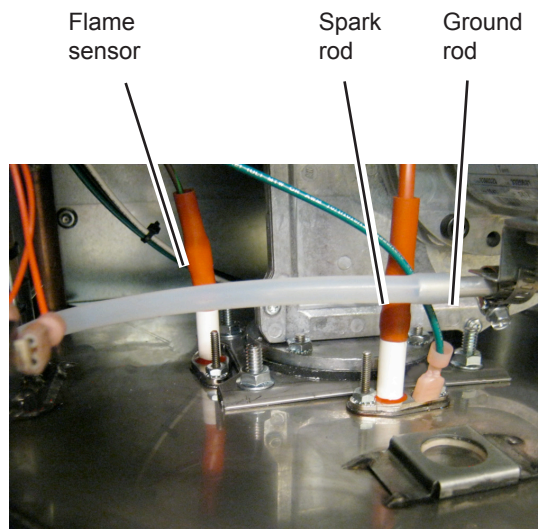

Fig. B16-2 - Connections for spark rod and flame sensor
4. Carefully disconnect the large red wire running to the spark rod and the smaller wire running to the ground. See Fig. B16-2.